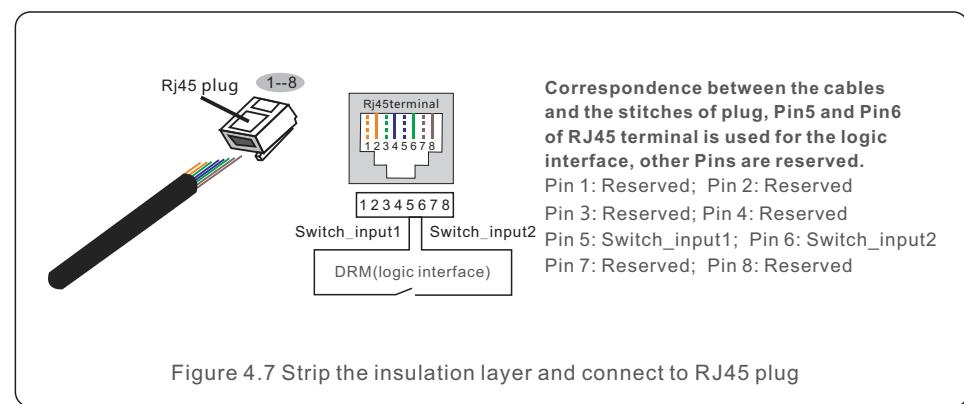

Figure 4.7 Strip the insulation layer and connect to RJ45 plug
2. Use the network wire stripper to strip the insulation layer of the communication cable. According to the standard line sequence of figure 4.7 connect the wire to the plug of RJ45, and then use a network cable crimping tool to make it tight.